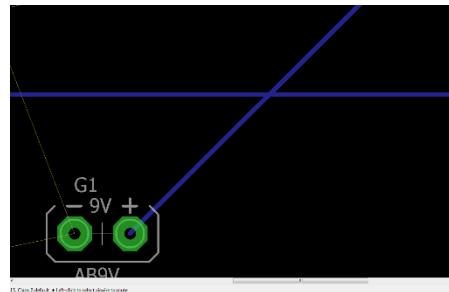

Figure 12
6. As the board becomes more crowded it may be impossible to simply just route traces around each other to get from pad to pad. Intersections of traces will occur as shown in **figure 12**. This common problem may be resolved by using a vias. Vias are when traces go from one layer of the board to another layer. There are a variety of boards that can be fabricated from manufacturers, but the ECE shop only has 2 layer boards. The boards